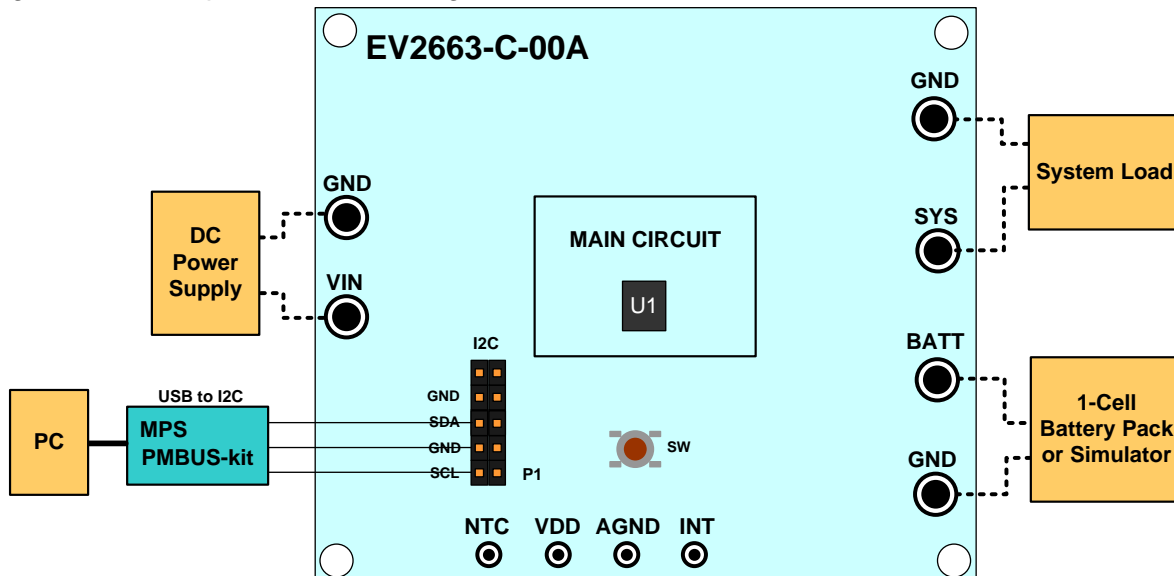

Figure 5: Test Setup for MP2663
4) Original Test Setup for MP2663 in Figure5